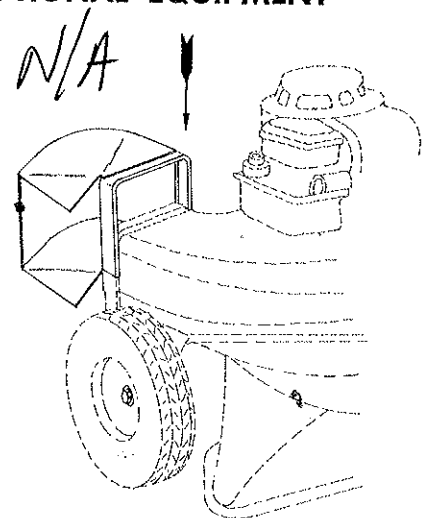

FIG. 1
3. Next install the Converta-Blo attachment by sliding the channel section over the bag retainer bars, Fig. 1. The unit is now ready for blowing.